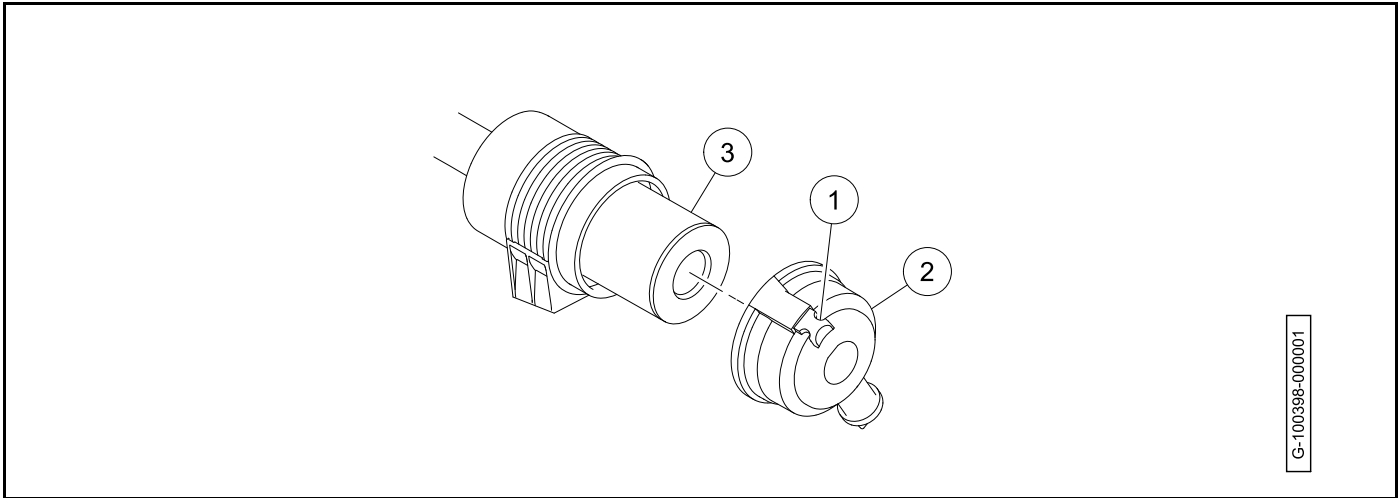

Figure 10-5 Air Filter
1. Release the latch (1) (**Figure 10-5, Page 10-12**).
2. Remove the air cleaner cover (2).
3. Remove the air filter (3).
2. Install the air filter (3) (**Figure 10-5, Page 10-12**).
3. Install the air cleaner cover (2).
4. Engage the latch (1).